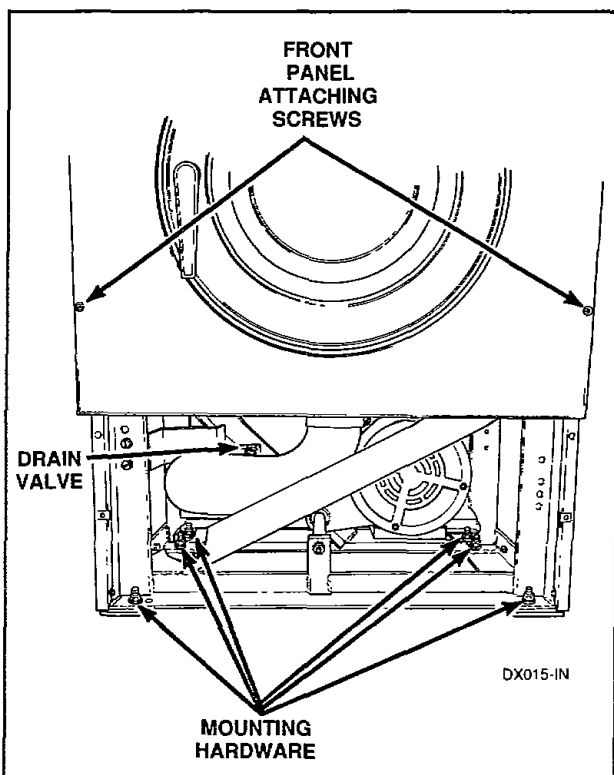

Figure 20
- f. Reach in through front of washer and remove the mounting hardware holding washer to concrete or base, *Figure 20*.
- n. Run belt(s) off cylinder pulley while slowly turning pulley, *Figure 10*. Then disconnect wires from drain valve, *Figure 20*.